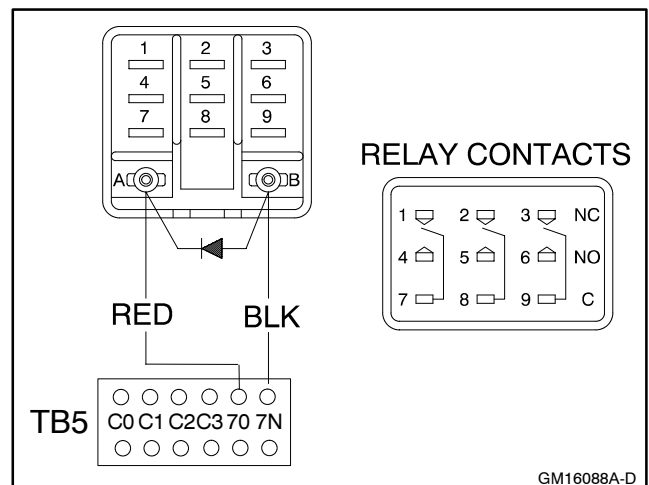

Figure 4 Run Relay Kit Connections for non-550 Controller
- 3.2.2 Connect the red wire of the run relay to TB5-70. See Figure 4.